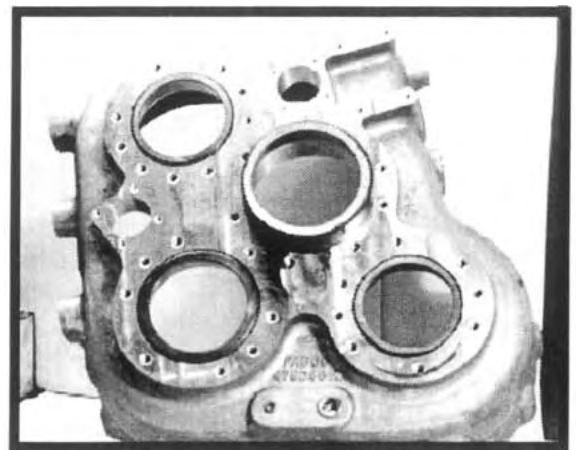

Figure 6.38
14. Gently tap the four bearing cups into the rear case half bores. See Figure 6.38.